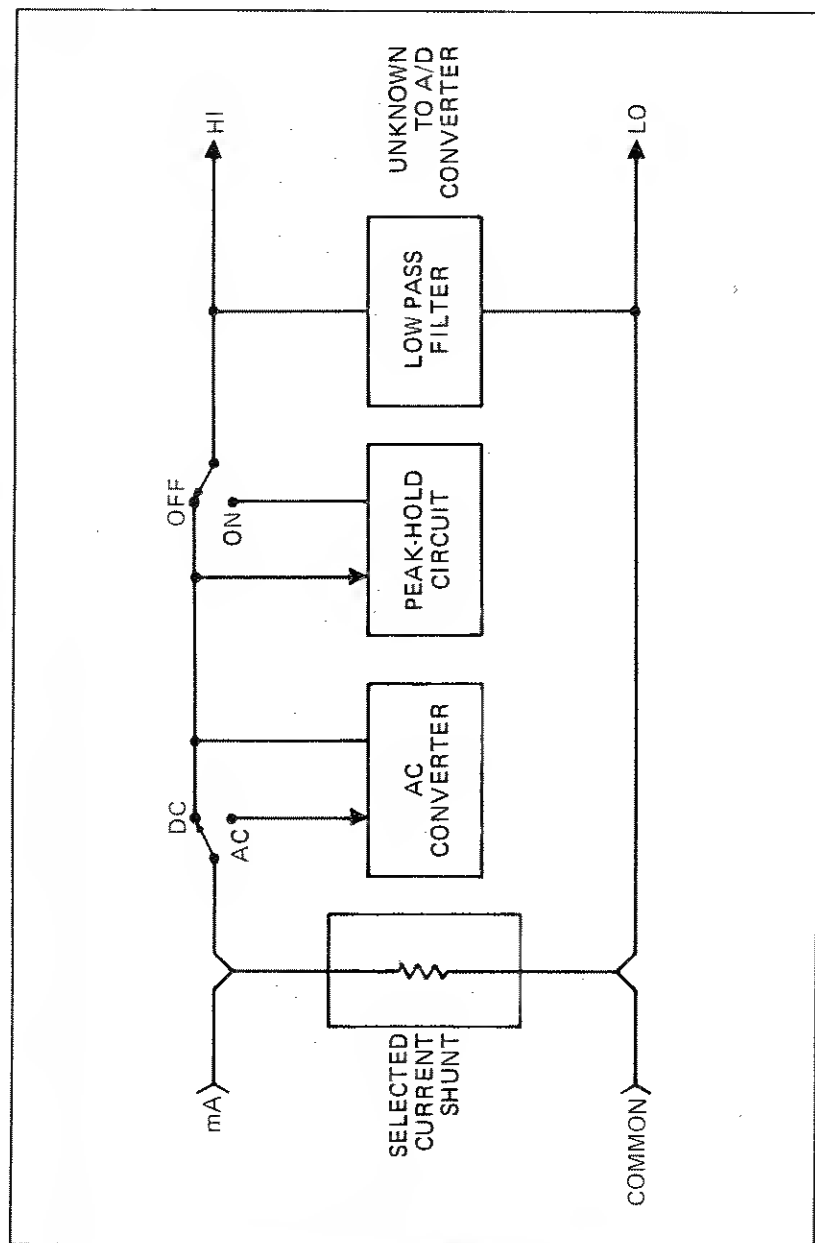

Figure 3-5. Current Measurement
3-17. Current measurements are made using a fuse protected, switchable, current shunt (0.1 $\Omega$ , 1 $\Omega$ , 10 $\Omega$ , or 100 $\Omega$ ) to perform the current-to-voltage conversion required by the a/d converter (Figure 3-5). The voltage (IR) drop produced across the selected shunt may be either ac or dc. If the input current is dc and the DC function is selected, the IR drop is passed through a low-pass filter, and presented as the unknown input to the a/d converter. However, if the input current is ac and the AC function is selected, the IR drop is rectified by the ac converter. If the PEAK HOLD switch is at the OFF position, the dc signal from either the ac converter or the current shunt is routed through a filter to the a/d converter. This unknown input voltage to the a/d converter is proportional to the current passing through the current shunt.